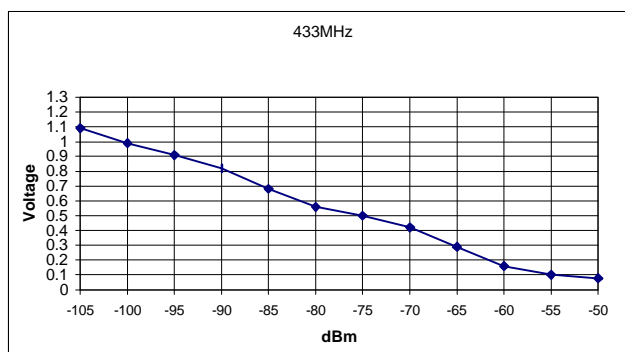

Figure 4 RSSI Output
2. The serial inputs and outputs are intended for connection to a UART or similar low voltage logic device. Do not connect any of the inputs or outputs directly to an RS232 port. The transceiver module may be permanently damaged by the voltages (+/- 12V) present on RS232 signal lines. See Application Circuit (Figure 4) for typical connection to an RS232 port via MAX232 interface IC.
Figure 4 shows the connection of the Easy-Radio ER400TRS Transceiver to a PC AT RS232 port. A MAX232 provides the necessary voltage level shifting required to send and receive serial data at the typical $\pm 12\text{V}$ RS232 signal levels. This IC also inverts the RS232 signal to match those required by the Easy-Radio Transceiver.